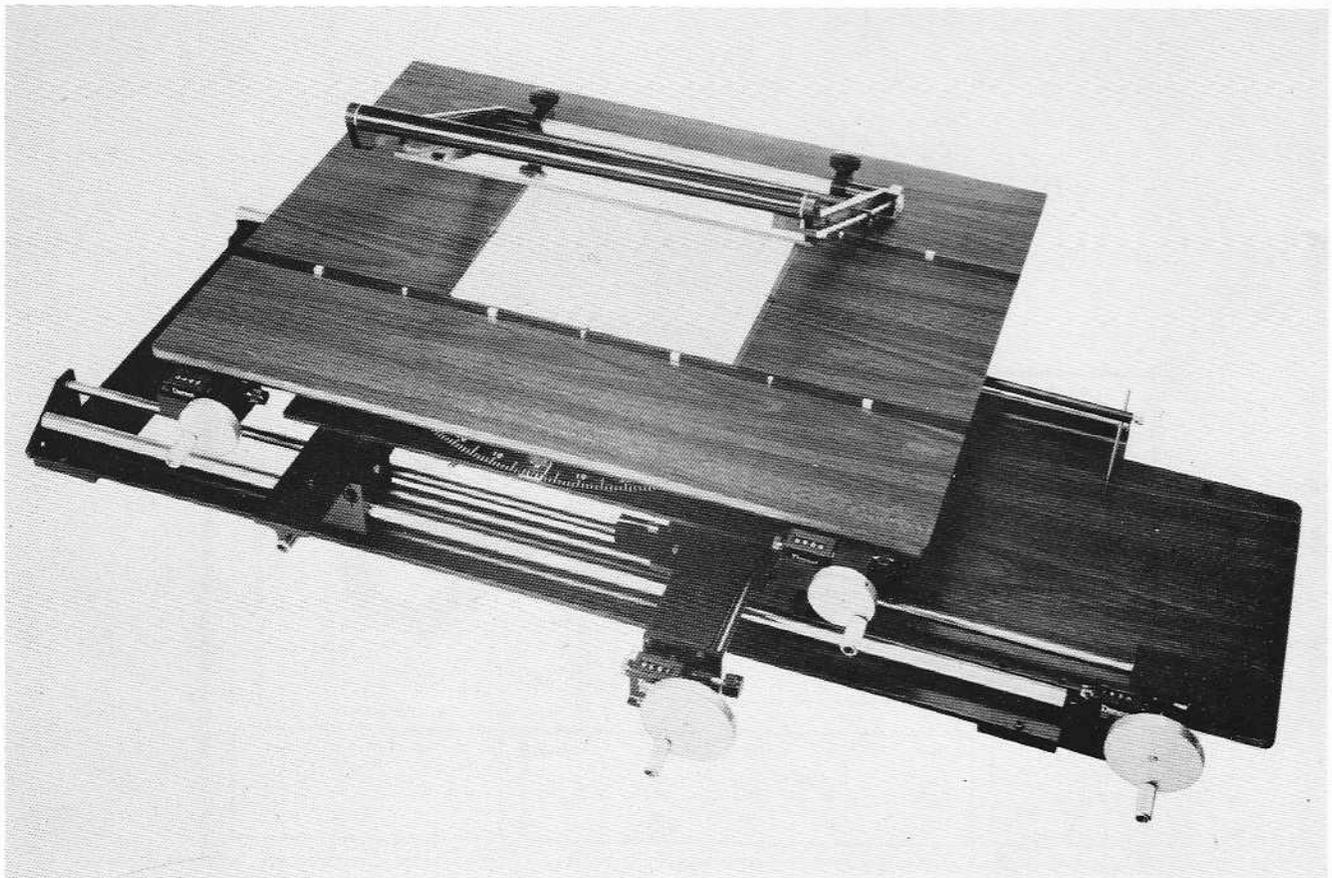

Figure 4. Animation Compound Table Top
**2.8.3 COMPOUND TABLE.** The professional animation table (see Figure 4) features split-nut devices allowing extremely smooth free-float action and fully supported ground and hard chrome plated guide rails with heavy duty linear ball bearings. North-South travel is 15½", East-West is 25½" and the table rotates 360°. The pantograph pointer enables complex movements to be accurately plotted. The table top with a 12 field illuminating area is for cel photography and has 2 peg tracks with your choice